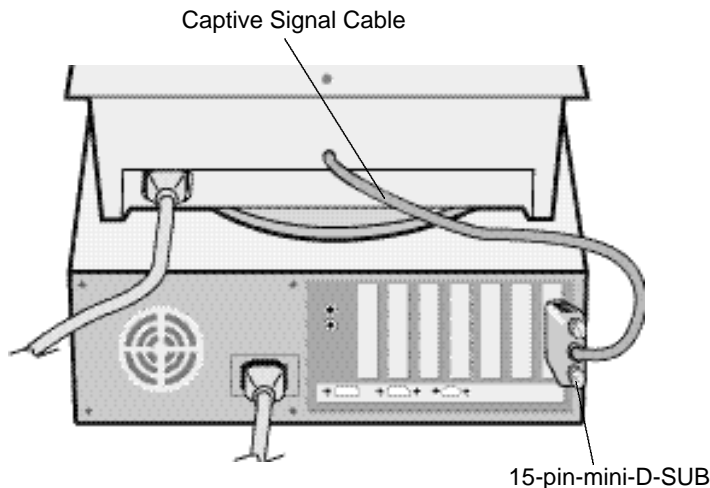

Figure A.1
- 3 **For the PC:** Connect the 15-pin mini D-SUB of the captive signal cable to the connector of the display card in your system (Figure A.1) Tighten all screws.